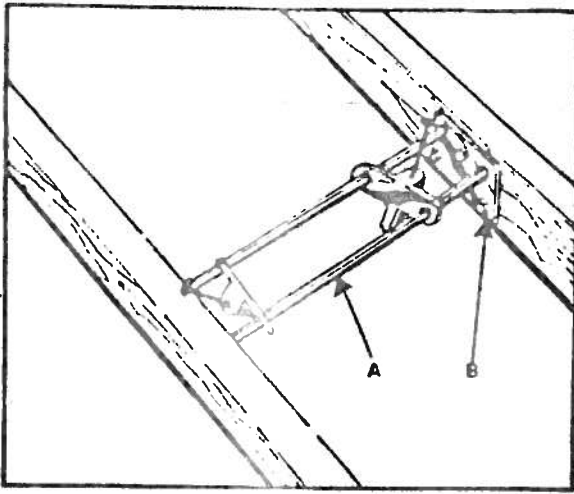

Fig. 3
2. It is suggested that welding the rods (A) Fig. 3 of the Guide Rail brackets to the plates (B) provides greater stability as the screws tend to come loose from much use. Also if the 2x4's used as the Guide Rails become warped over time, they must be replaced with straight 2x4's.